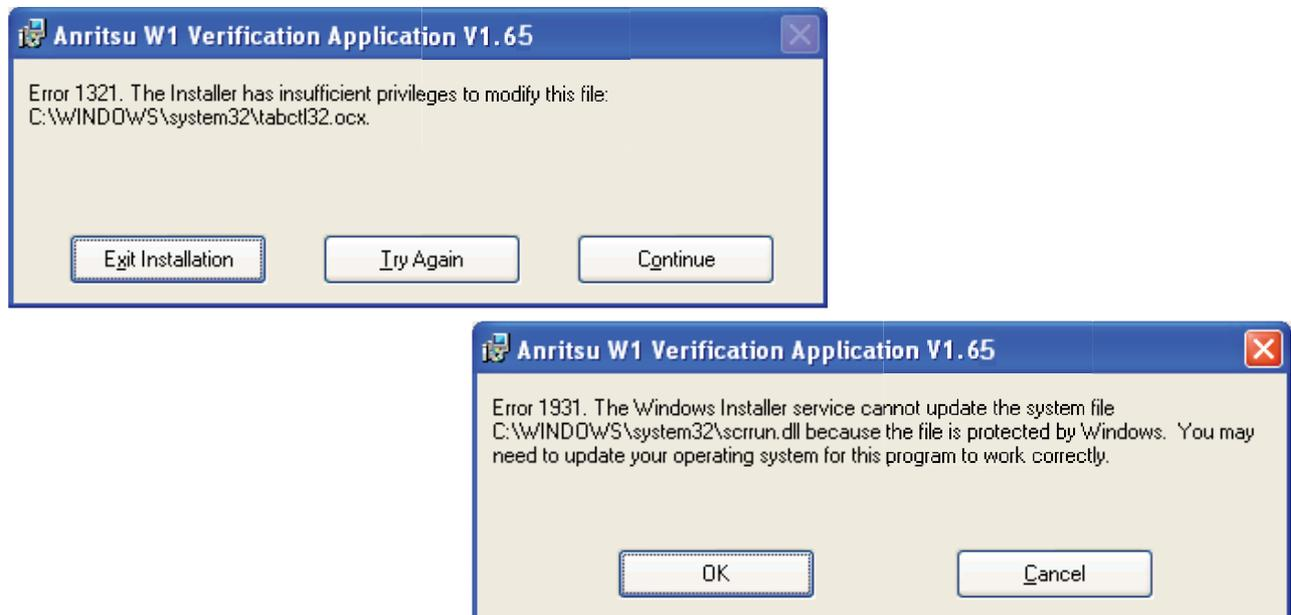

Figure 3-3. Installation Error 1321 and Error 1931 Dialog Boxes
8. If either of the two dialog boxes shown in Figure 3-3 appear that display Error 1321 or Error 1931, follow these instructions: